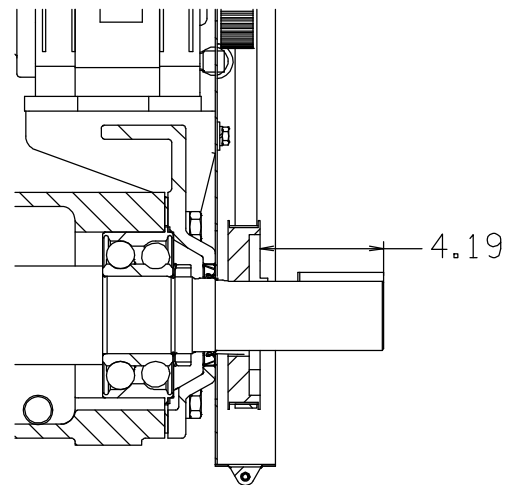

Figure 6. Drive Sprocket Positioning
Install the key (35) in the shaft keyway, making sure to leave room in the keyway for the drive key (25, Figure 2). Install the bushing (34) and sprocket (33) on the shaft to the dimension shown in Figure 6.